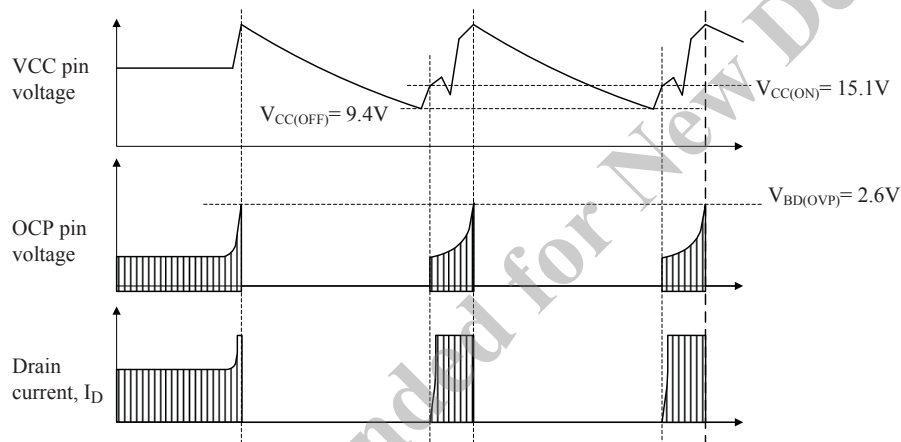

Figure 35. Waveforms when OCP pin OVP is being activated (LC551xD)
- OCP Pin Overvoltage Protection. Figure 35 shows the OCP pin OVP function. When the OCP pin voltage with reference to the S/GND pin reaches $V_{BD(OVP)} = 2.6\text{ V}$ or more, OVP is activated. This input voltage must be less than the absolute maximum rating, 5V.